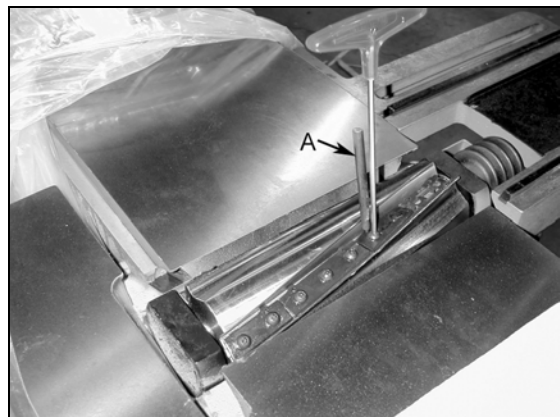

Figure 20
4. Begin installing the rest of the gib plates using the indexing tool (A, Figure 20) to properly align the knife while tightening the screws.